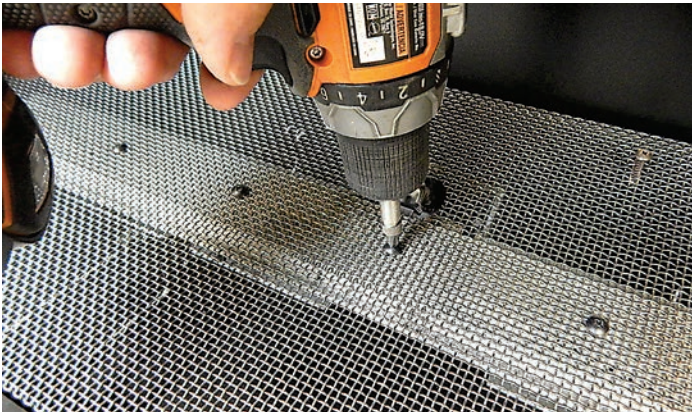

Figure 4
7. Using a Phillips screwdriver, remove the Phillips Pan Head screws that secure the Burner Screen to the Burner, and set aside. DVLL36BP has (7) screws, and the DVLL48BP has (9) screws. **See Figure 4.**